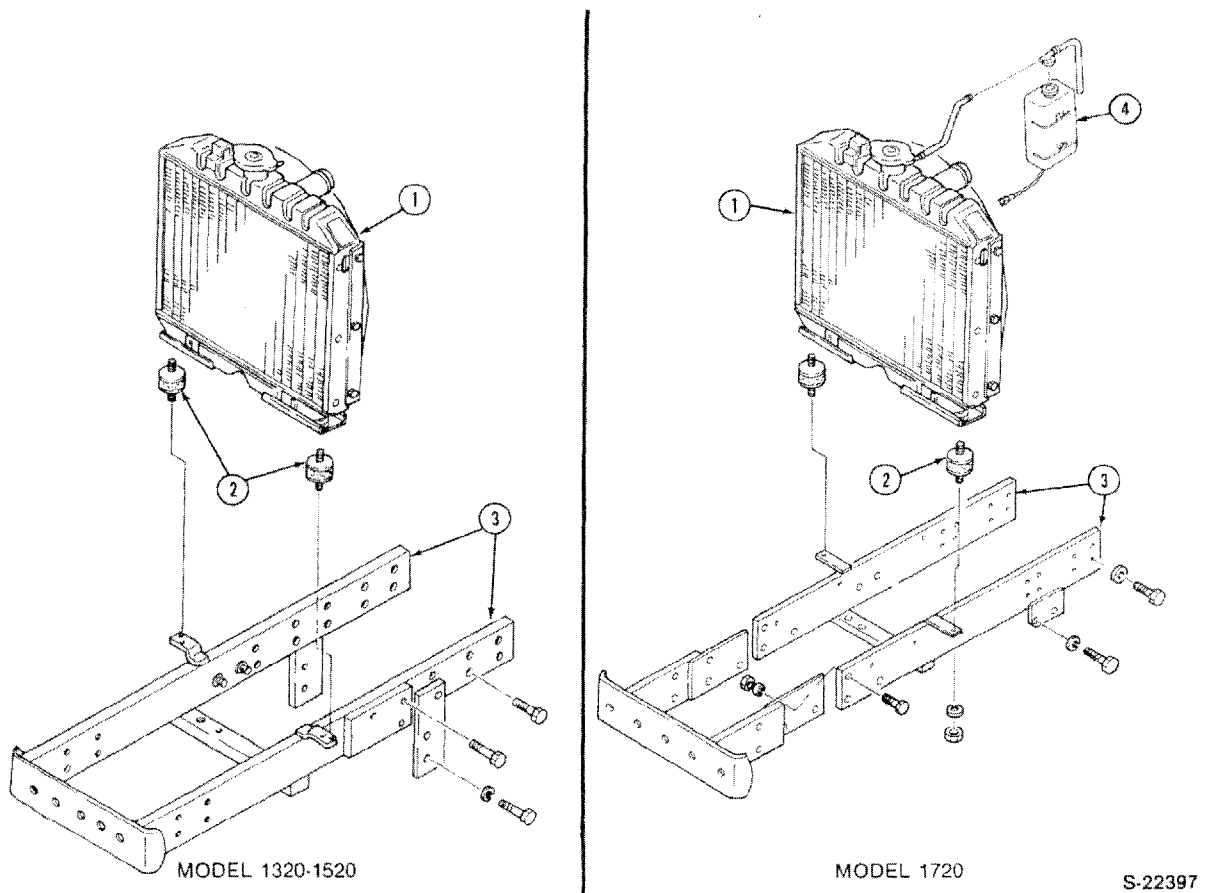

Figure 94
13. Remove the radiator bottom support bolts from the engine frame and remove the radiator assembly, Figure 94.